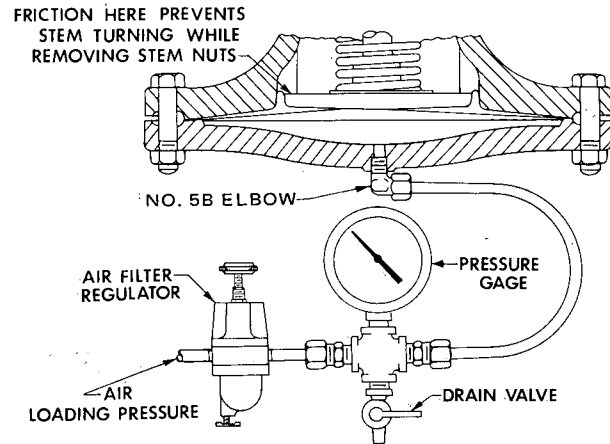

Figure 3: Air Loading Arrangement for Removing Stem Nuts.
- b. Attach adjustable pressure source as shown in Figure 3. Apply about 30 psig (10 psig for E2) to jack open valve.